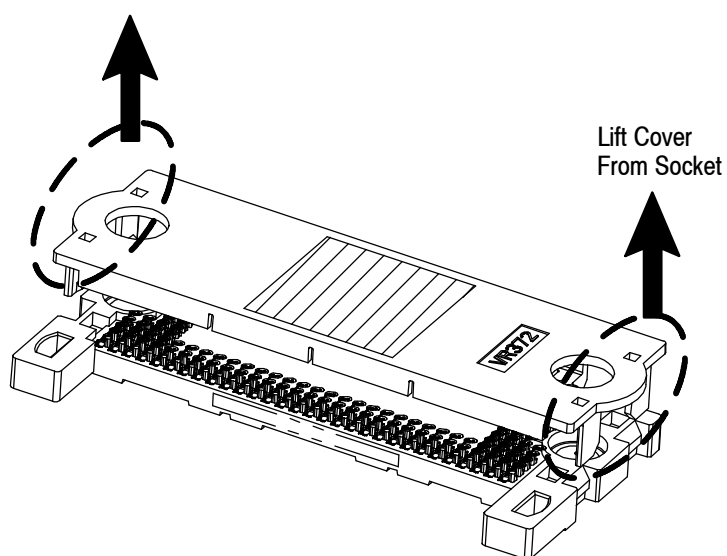

Figure 2
The following assembly procedures should be followed when assembling this product. See Figure 2. If other components are required for the system into which the socket assembly is installed, the socket and those components must be assembled in the following sequence:
- The pick and place cover is removed as illustrated in Figure 2 prior to installation to the mating LGA card. The cover must be installed at all times when the connector is in the unmated condition. The cover should not come into contact with the LGA springs (contact tips) during cover removal and installation.